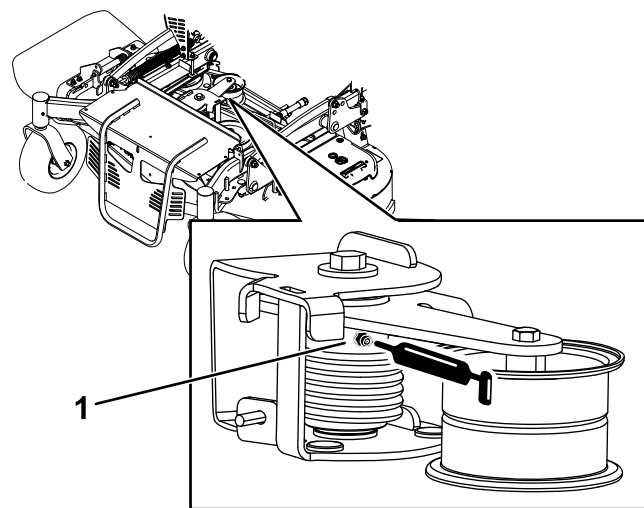

Figure 38
3. Grease the torsion idler on the mower deck using high-temperature grease at the grease fitting shown in Figure 38.